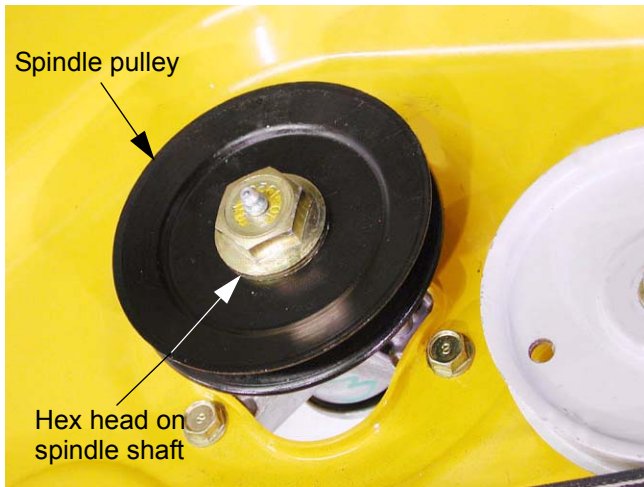

Figure 4.5
- 4.5. Remove the spindle shaft and pulley from the spindle housing. See Figure 4.5.